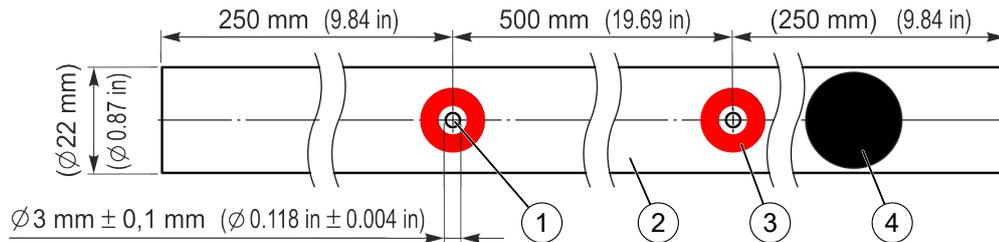

Fig. 31: Suction pipe
1. ▶ Drill suction bores (Fig. 31/1) into the suction pipes (Fig. 31/2). Carry out distances and bore diameters according to Fig. 31.
3. ▶ Degrease areas for red bore marks (Fig. 31/3) on suction pipes.
- Glue the black sticker³⁾ (Fig. 31/4) into place, making sure it is in the middle of the redundant bore.